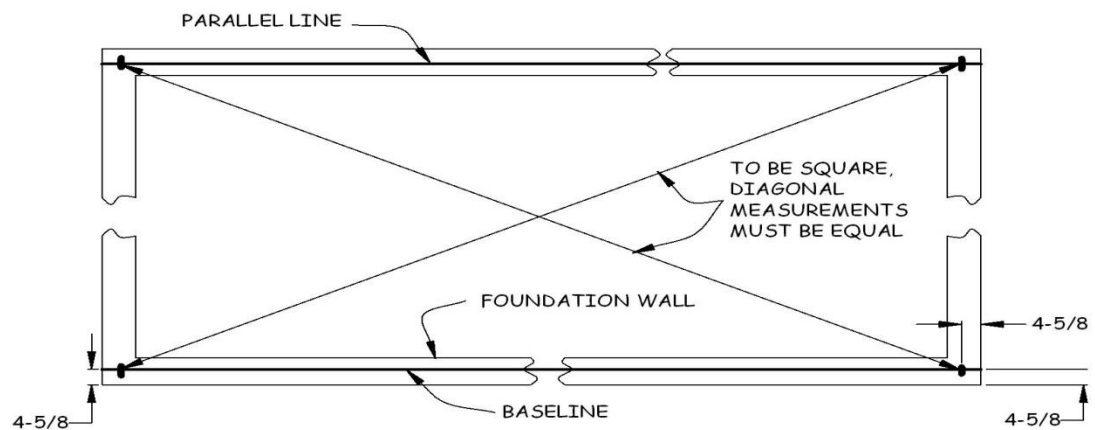

Figure 1-2. Squaring Foundation Lines.
3. Now that the sill plate lines are square, check to make sure the short wall corner marks are the same distance (preferably $4\frac{5}{8}$ "; call it Distance A) from the outside edges of the short foundation walls. If necessary, adjust the floor box (see Figure 1-2) left or right along the long walls until Distance A on both short walls differs by less than $\frac{1}{8}$ ".
3. Now that the sill plate lines are square, check to make sure the short wall corner marks are the same distance (preferably $4\frac{5}{8}"$; call it Distance A) from the outside edges of the foundation walls. If necessary, adjust the floor box (see Figure 1-2) left or right along the long walls until Distance A on both short walls differs by less than $\frac{1}{8}"$.